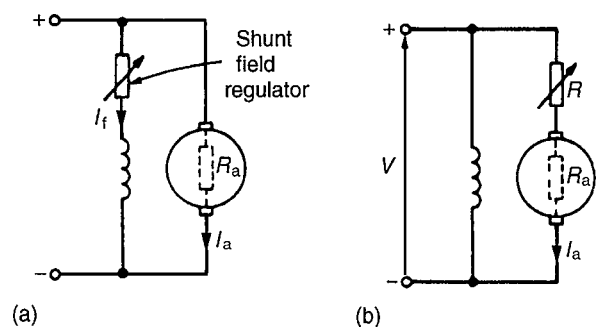

Figure 22.29
(see equation (9)). The speed is varied either by varying the value of flux,  $\Phi$ , or by varying the value of  $R_a$ . The former is achieved by using a variable resistor in series with the field winding, as shown in Fig. 22.29(a) and such a resistor is called the **shunt field regulator**.
are obtained by increasing the resistance in the armature circuit, as shown in Fig. 22.29(b), where
- (a) With reference to Fig. 22.29(b), back e.m.f. at 120 A,  $E_1 = V - I_a R_a = 500 - (120)(0.2) = 500 - 24 = 476$  volts.